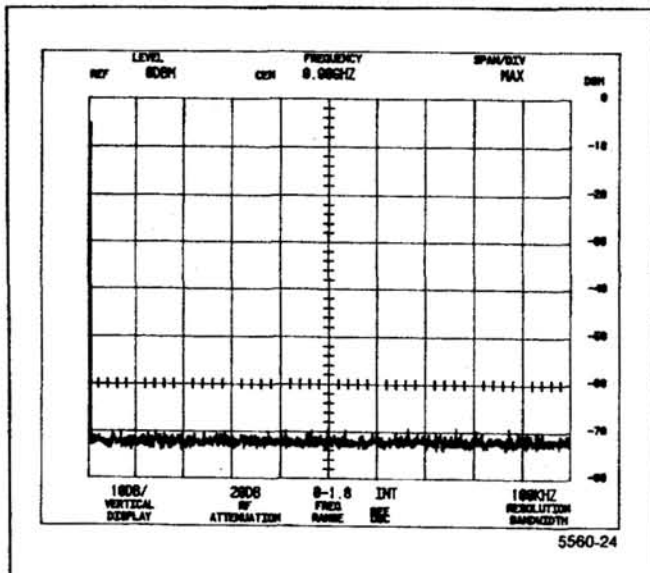

Figure 4-1. Crt display at initial power-up.
c. The microprocessor runs a memory and I/O test. If no processor system problems are found, the power-up program will complete in approximately 10 seconds and the instrument will be ready to operate. After the power-up routine, the crt will initialize as shown in Figure 4-1.